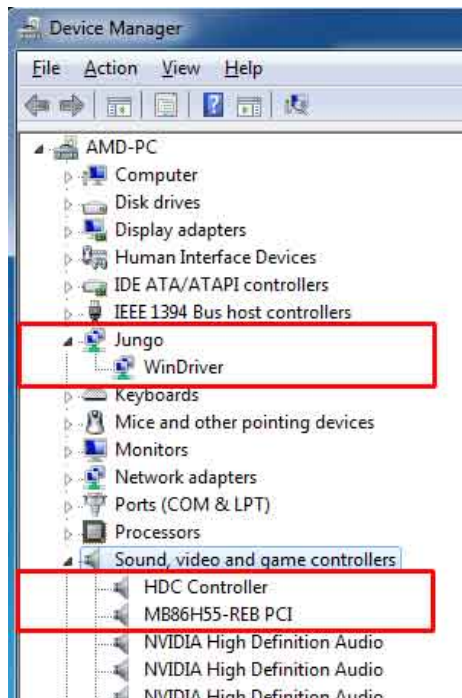

**Figure 3-5: Driver Installation Complete**
**Step 8:** When the driver installation is complete, the screen in **Figure 3-5** appears. Click the **Finish** button to finish driver installation.